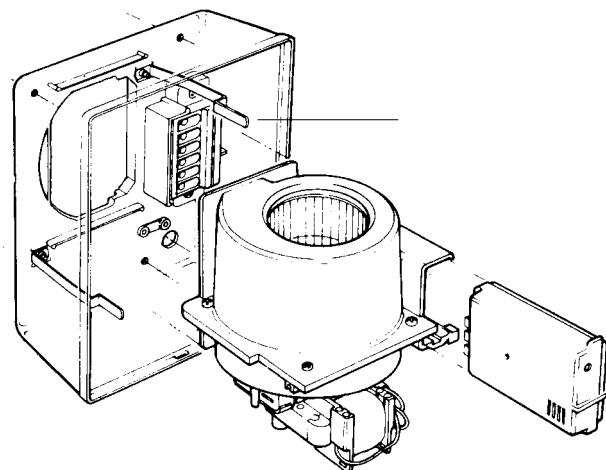

Fig. 4. Electronic control module and Fan/Motor assembly
2. Remove the plug in electronic control module (Fig.4)
3. Remove the fan / motor assembly by pulling aside the two spring clips (Fig.4).